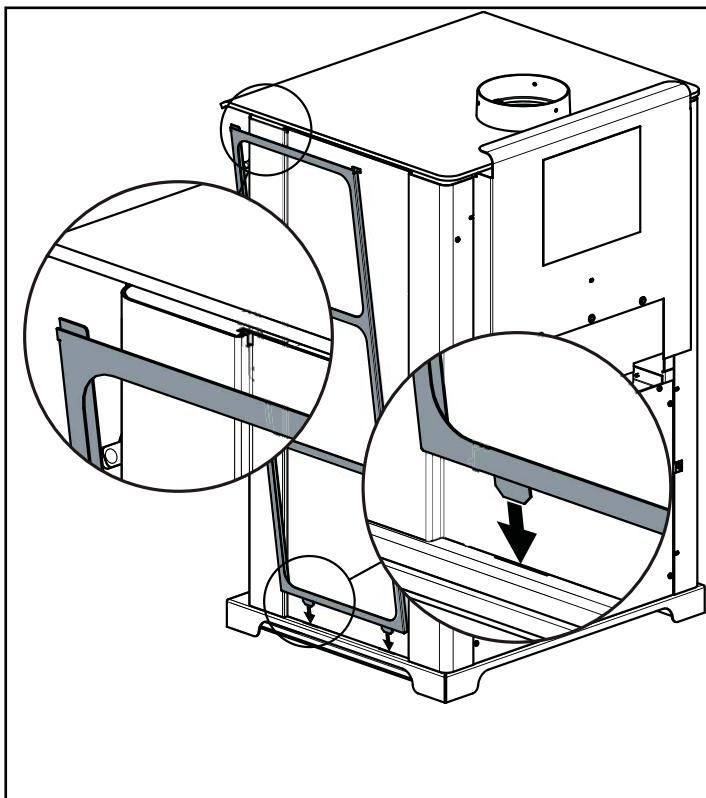

Figure 25.1
- Remove tile frame from side by lifting up and pulling away from stove. **Figure 25.1**